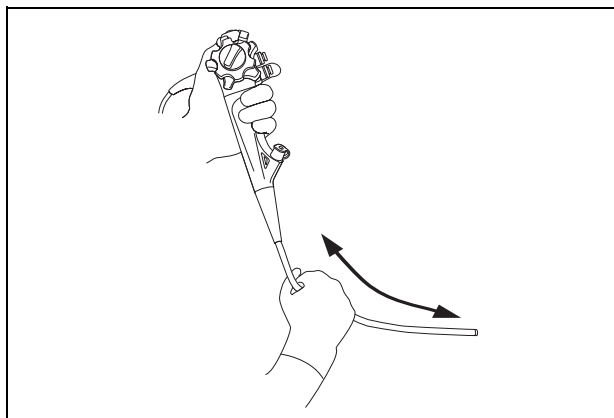

Figure 3.2
4. Holding the control section with one hand, carefully run your other hand back and forth over the entire length of the insertion section (see Figure 3.2). Confirm that no objects or metallic wire protrude from the insertion section. Also, confirm that the insertion tube is not abnormally rigid.